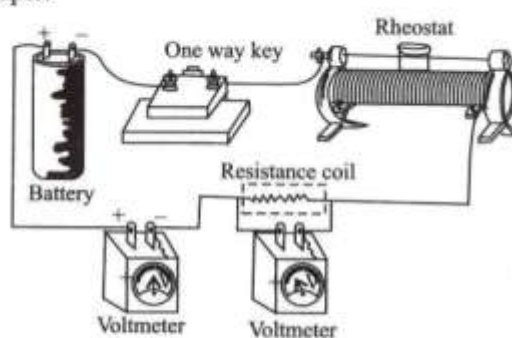

Fig. 4.2 : Arrangement Diagram
- Connect the items as shown in Fig. 4.2